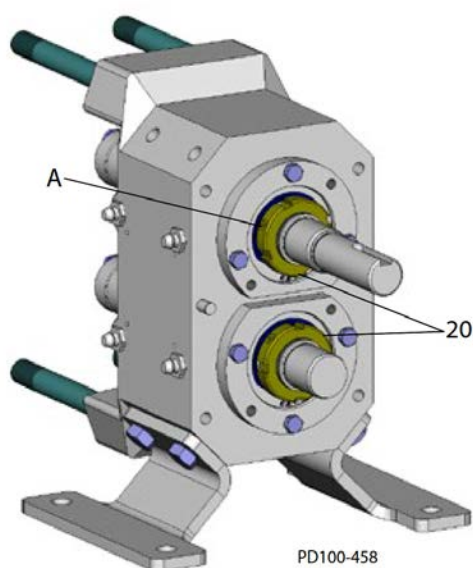

Fig. 51: Tighten Setscrews
4. Tighten or loosen the bearing lock nut (Figure 51, item 20) to achieve a torque value as shown in Table 6.
5. Tighten the locking setscrew(s) (Figure 51, item A) in the bearing lock nuts (item 20).